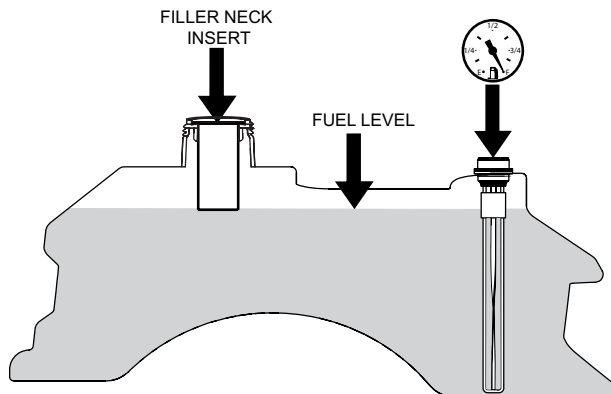

Figure 7-6. C.A.R.B. / EPA Phase 3 Fuel Level
Fill to the bottom of the filler neck insert (approximately 8 gallons per fuel tank indicating Full (F) on the fuel gauge) at the beginning of each operating day. See Figure 7-6. Do not overfill. Use clean, fresh unleaded gasoline with a minimum octane rating of 87 and a maximum of 10% Ethanol.